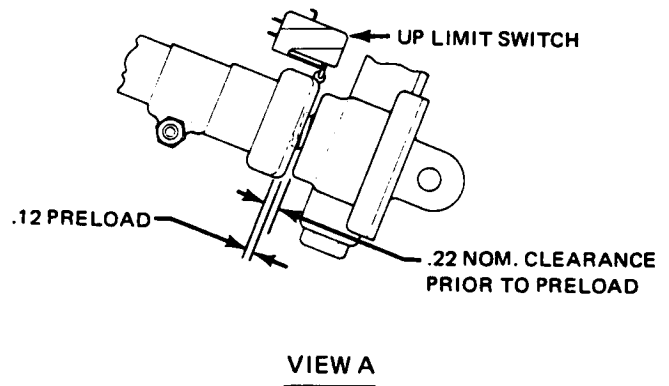

Figure 14-11. Condenser Air Scoop Installation
- b. Place the condenser and frame assembly to the fuselage frame mounting bracket and insert the (8) screws into the piano hinge.
- f. Seal all around cover panel (and aft cover panel if removed) with Permagum Bead No. 576 purchased from Prestolite Engineering Company. (See Figure 14-11.)
14-34. CONDENSER DOOR ACTUATOR. The actuator is on a bracket mounted between two bulkheads in the tail cone. It is coupled to the condenser assembly through a bellcrank mounted to a bracket on the bulkhead aft of the condenser. The actuator travel is controlled by two limit switches. Both the up and down switches are located on the actuator. Refer to Figure 14-11 for the switch locations.
14-35. CONDENSER ASSEMBLY RIGGING INSTRUCTIONS. (Refer to Figure 14-11.) The condenser assembly is actuated by an electric motor through bellcranks, push rods and limit switches.
It is necessary for the condenser door to fit flush with the fuselage skin and with increased force along the forward edge. The following steps will help accomplish this requirement: (Refer to Figure 14-11.)
- b. Adjust the push rods (9) so that a vertically measured gap of .16 of an inch exists along the trailing edge of the door at the instant the forward edge of the door becomes flush with the fuselage skin.
- c. With the door fully closed, adjust the CLOSED (6) limit switch so that the actuator (1) travels an additional .12 of an inch after the door is fully closed, this is necessary to preload the mechanism. Refer to Figure 14-11.